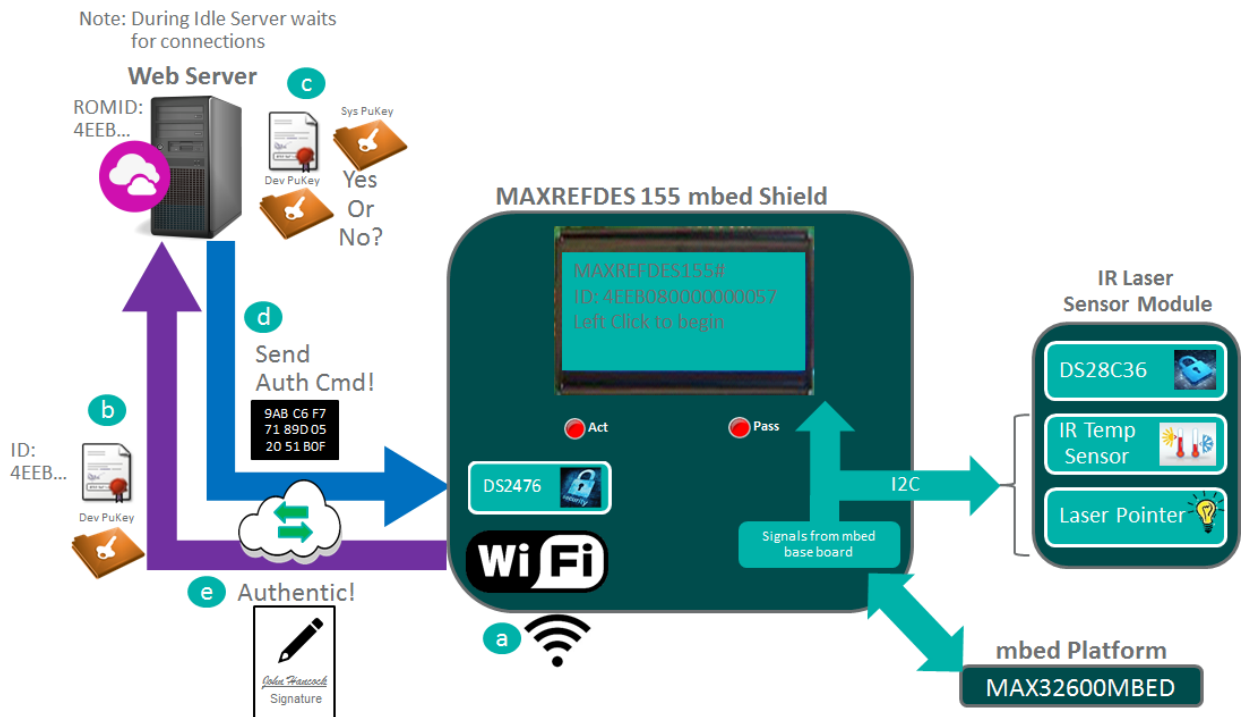

Figure 12. Establishing the setup connection to the web server.
11. To summarize, if everything is correct the following (as illustrated in **Figure 12**) shows what occurred to establish a secure connection to the Web Server: